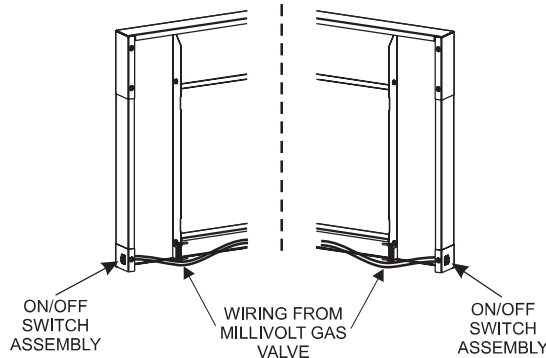

Figure 13
- 2b. **IP Units:** Disconnect the (2) black wires from the green and white wire connectors. Connect alternate On/Off switch wires to the green and white wires. **Note:** This bypasses the On/Off switch located on the front of the control module tray.
3. Run the low voltage alternate switch wires over to the right or left surround panel. Then secure the wires with wire clips provided. **See Figure 13.**
4. Remove the switch knockout on the side surround panel, then install the ON/OFF switch. **See Figure 13.**